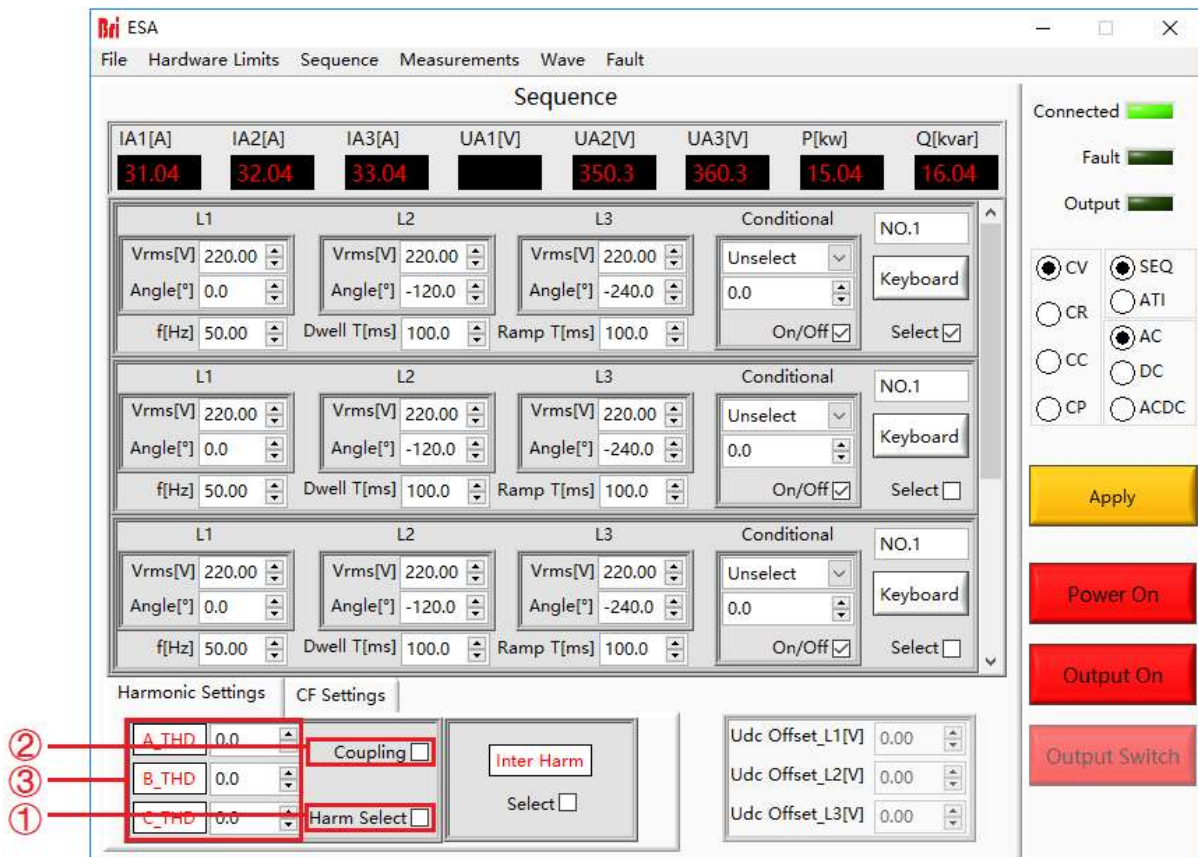

Figure 5-15 Harmonic Simulation-1
Click "Sequence Mode" to enter the panel, firstly set the operating parameters (such as output voltage, frequency). Click "Apply"→"Power On"→"Output On", the power supply is on. Check the harmonic selection box (Figure 5-15①), click the A/B/C phase harmonic simulation button (Figure 5-15③), the harmonic setting panel of each order will automatically pop up, then the user can set the harmonic angle, content and other parameters. After setting the parameters, check the corresponding boxes and click "Setting" → "Apply" in turn.
To cancel the harmonic simulation, click the A/B/C phase harmonic simulation button (Figure 5-15③), click "Clear" on the pop-up panel to clear all parameters, and then click "Setting" → "Apply". Finally, uncheck the harmonic selection box.